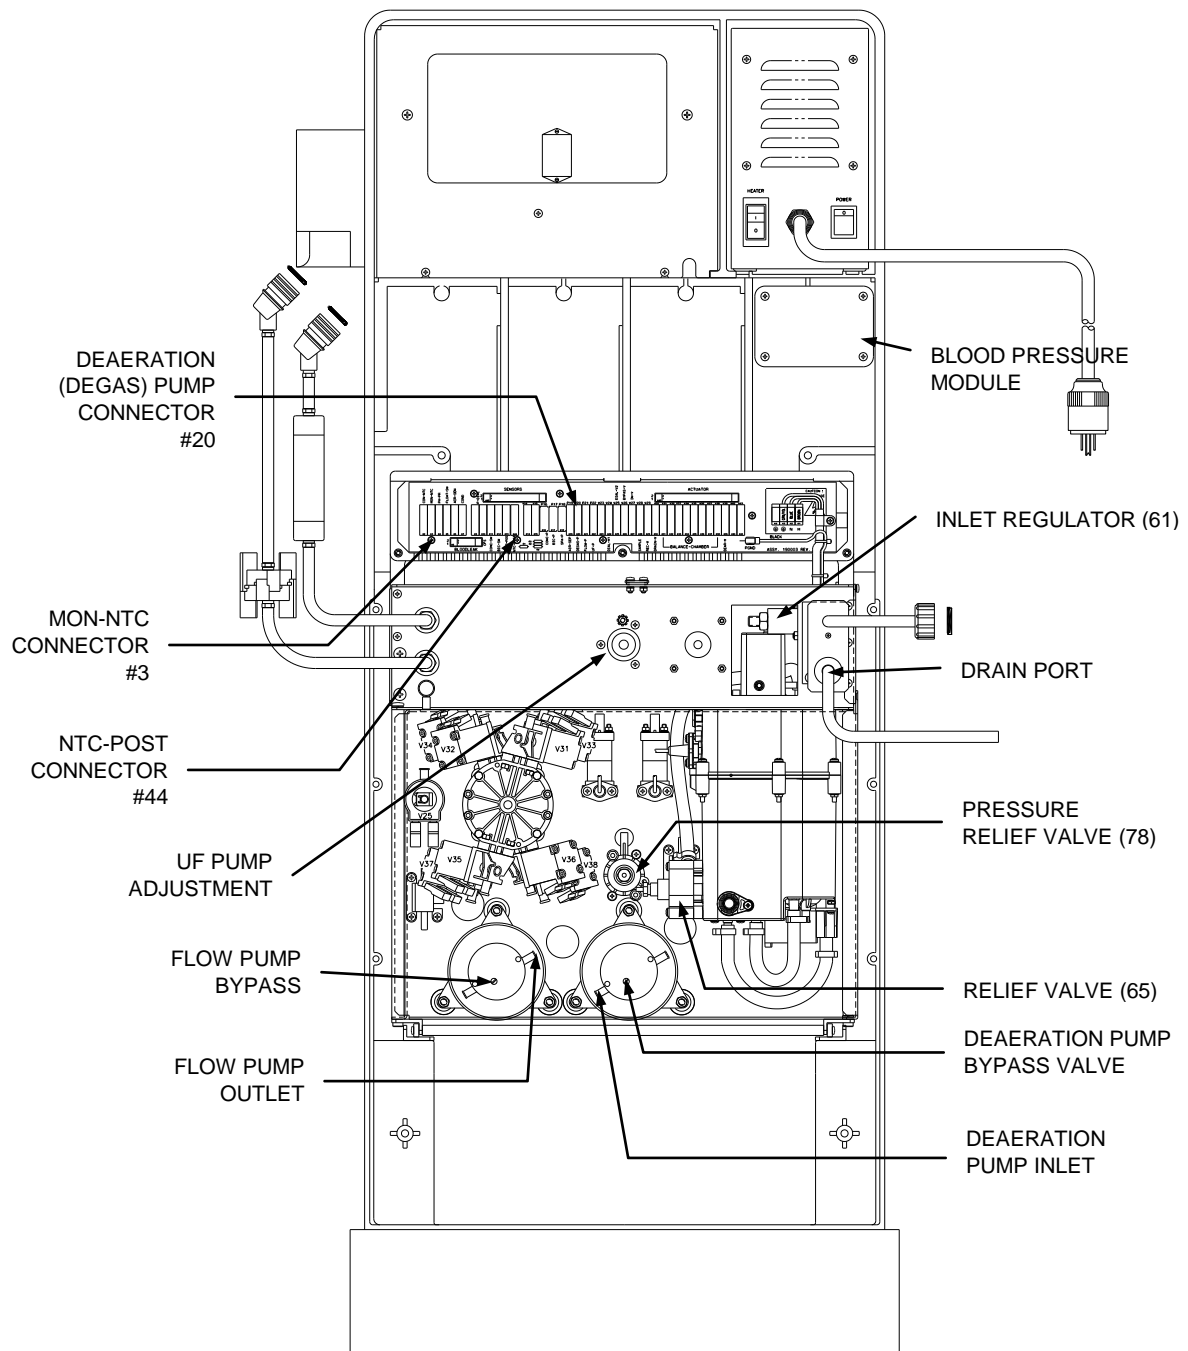

Figure 1 - 2008K² Rear View
1. Connect a gauge in line at the inlet side of the deaeration pump (See Figure 1, pg. 5).